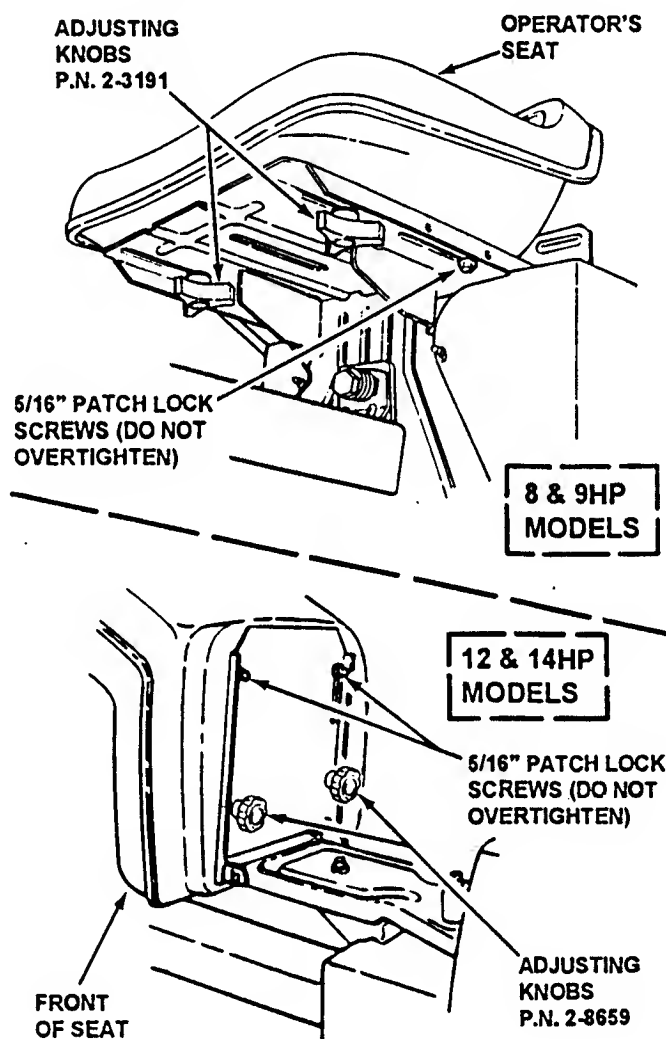

FIGURE 2.3
- 2.1.4. Adjust seat as needed to most comfortable position. See Figure 2.3.
- 1. With the engine stopped, loosen the two adjusting knobs and move seat to desired position. After adjustment, tighten knobs securely. If seat does not move after loosening knobs, it may be necessary to loosen the 5/16" patch lock screws located at the rear of the seat using a 1/2 inch wrench. On 12 and 14HP models, the operator's seat has a tilt-up design. The adjusting knobs need to be positioned as shown so as not to interfere with seat mounting plate when returned to sitting position. See Figure 2.3.